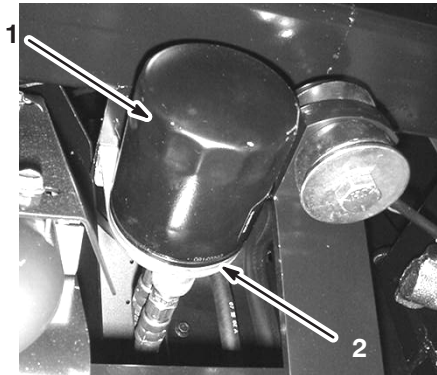

Figure 33
2. Remove the old filter (Fig. 33).
3. Wipe the filter adapter gasket surface (Fig. 33).
4. Apply a thin coat of new oil to the rubber gasket on the replacement filter (Fig. 33).
5. Install the replacement oil filter to the filter adapter. Turn the oil filter clockwise until the rubber gasket contacts the filter adapter, then tighten the filter an additional 1/2 turn (Fig. 33).